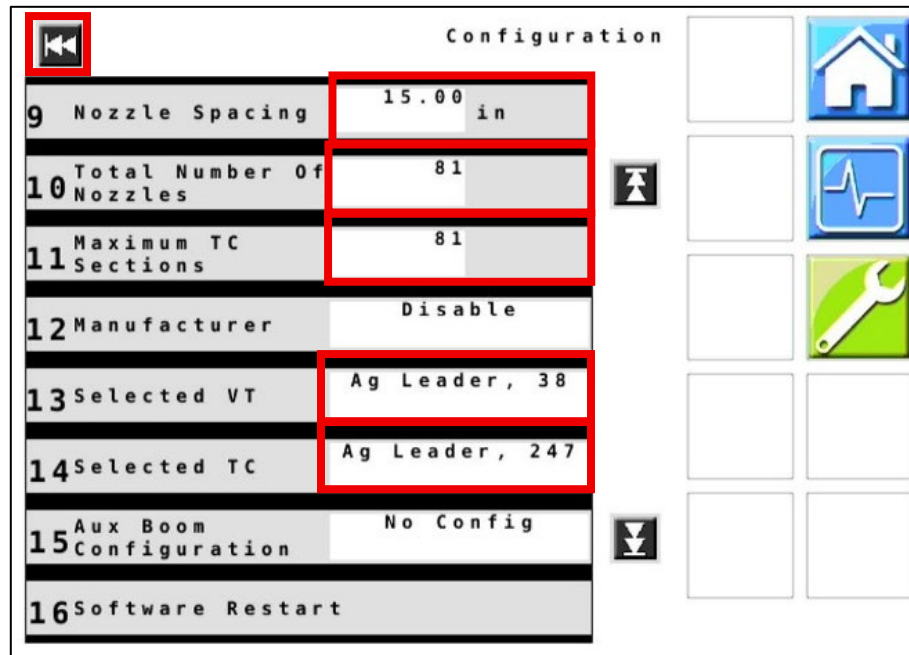

Figure 3 — Configuration Menu – Page 2
6. **Figure 3:** On Page 2 of the Configuration Menu: